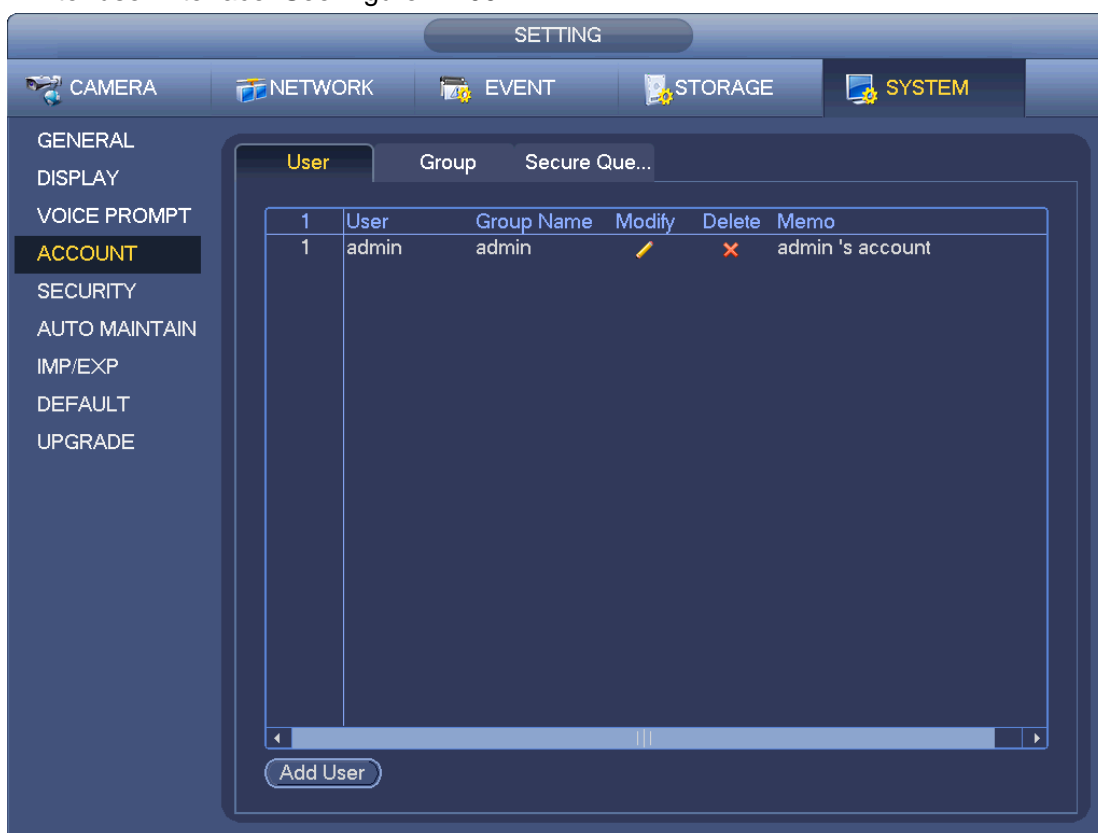

Figure 4-109
Enter user interface. See Figure 4-109.
Step 2 Click Add user button in Figure 4-109.